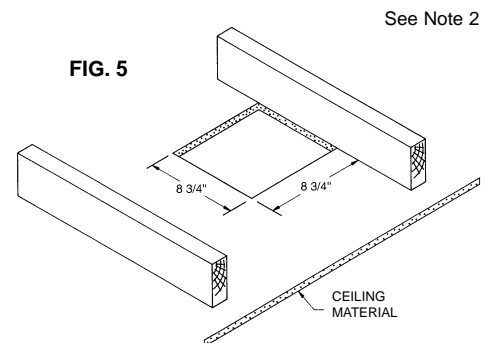

FIG. 5
1. In attic, mark ceiling for cutout by using housing as template. Note that housing is mounted directly to ceiling joist. See Fig. 5.